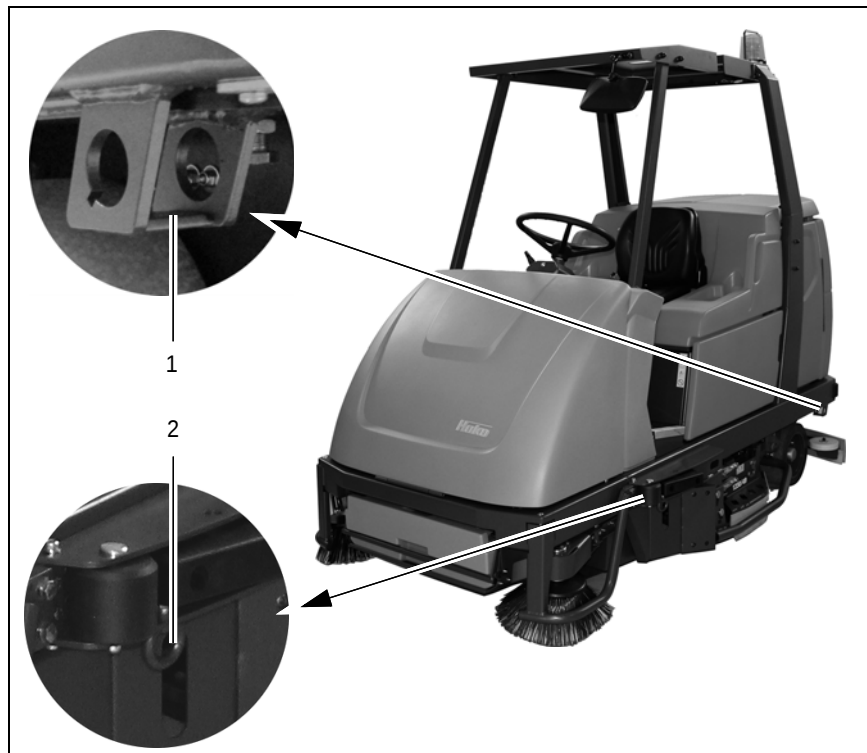

Fig. 47
- When the vehicle is to be transported on another vehicle or trailer, it must be secured against rolling away. Lash the vehicle down securely. The vehicle is provided with attachment points (lashing eyes) on the left and right-hand side to do this: at the rear of the frame and on the sides at the height of the entry area (Fig. 47/1+2).